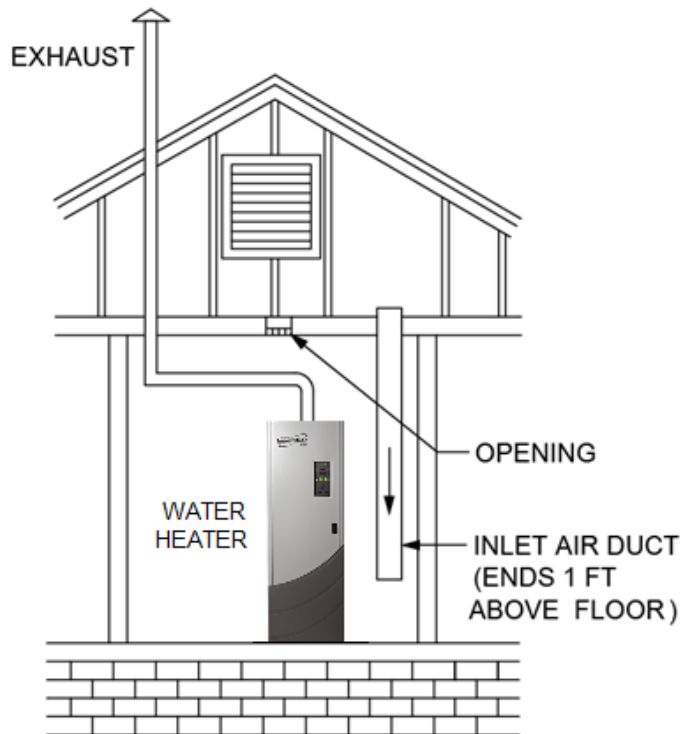

Figure 4: All Combustion Air from Outdoors – Through Ventilated Attic
1. When communicating directly with the outdoors, or when communicating to the outdoors through vertical ducts, each opening shall have a minimum free area of 1 inch² per 4,000 BTU/hr (654 mm²/1.17 kW) of total input rating of all appliances in the space (see Figures 4 and 5).